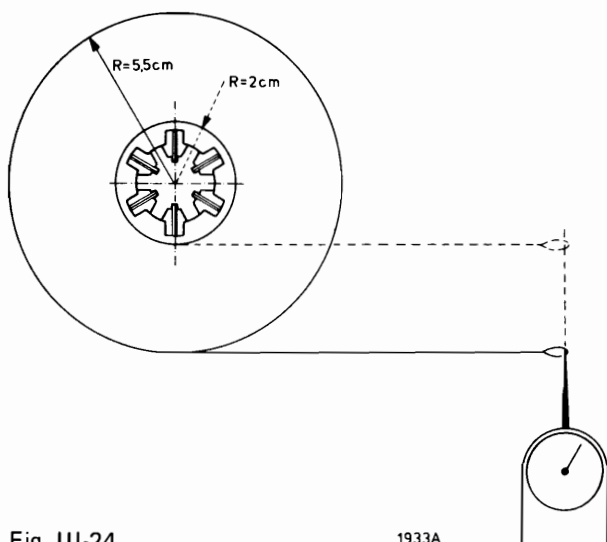

Fig. III-24
- With radius is meant the distance between the reel centre and the point where the force is measured (Fig. III-24).